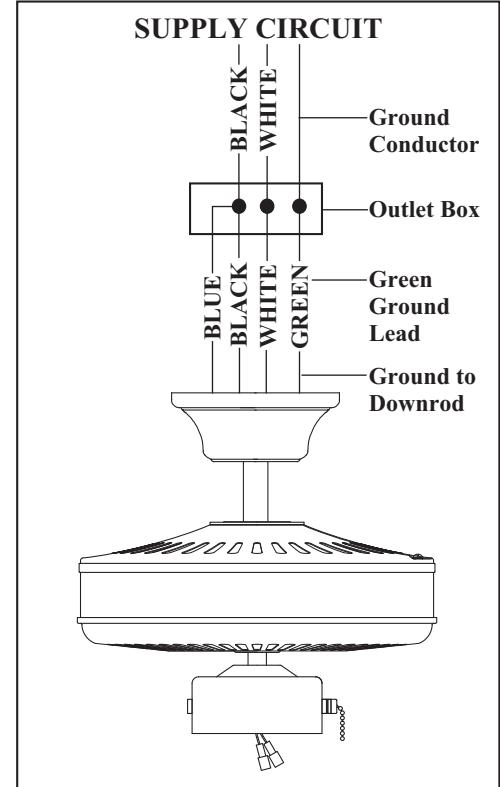

Figure 12
1. Connect the ground conductor of the 120V supply (this may be a bare wire or a wire with green colored insulation) to the green ground lead(s) of the fan. (Figure 12) When using standard ceiling mounting, there are two green grounding leads; one from the ceiling mounting bracket and one from the ball/downrod assembly. When using "Close-to-Ceiling" mounting, there is only one green ground lead from the ceiling mounting bracket since the ball/downrod assembly is not used.
2. Connect the fan motor white wire to the supply white (neutral) wire using a wire nut. (Figure 12)
3. Connect the fan motor black wire to the supply black (hot) wire using a wire nut. (Figure 12)